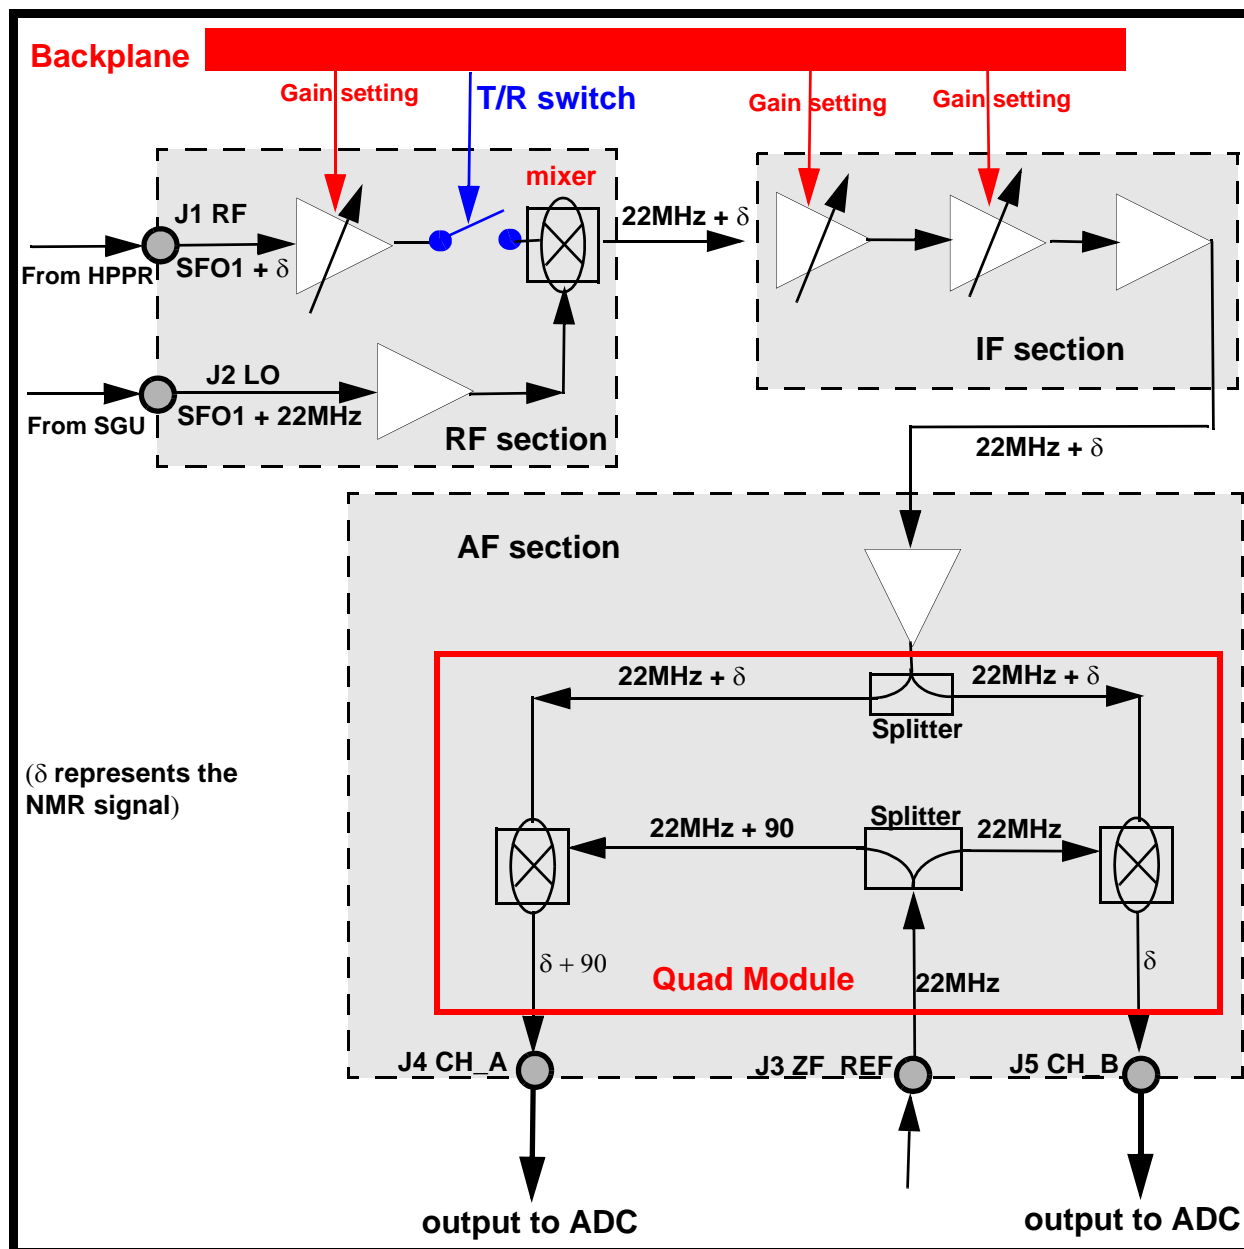

Figure 11.3. Simplified Schematic of RX22 Receiver
2. adjust the gain, phase and baseline for the quad module (the quad module is a final critical element of the receiver which implements quadrature detection. (see **Figure 11.3** or **Figure 11.4**.)